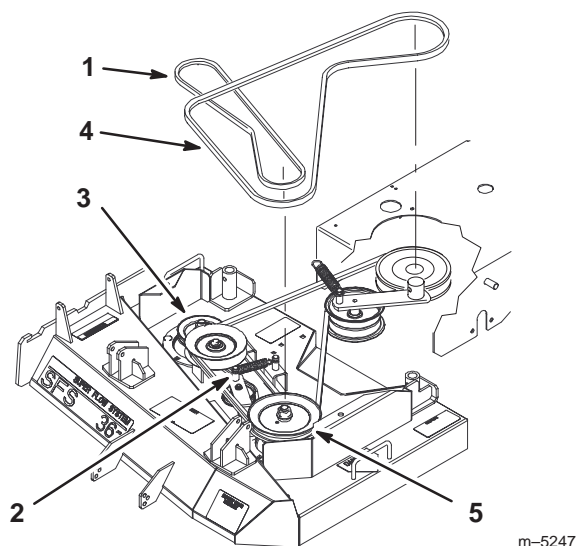

Figure 71
6. Disconnect the idler arm spring to relieve tension on the idler arm and idler pulley, then remove the worn mower belt (Fig. 71).
7. Install the new mower belt around the outward spindle pulley, the idler pulley, and in the lower groove of the double spindle pulley (Fig. 71).
8. Reconnect the idler arm spring (Fig. 71).